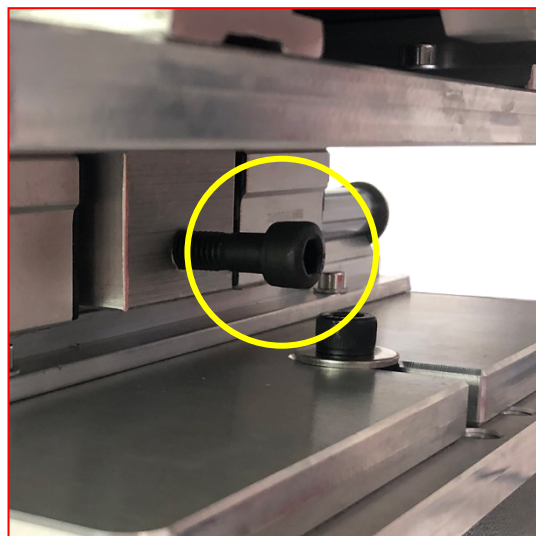

Figure 2, Figure 3
3. The bottom of the table is equipped with a brake device (Figure 2 and Figure 3). Just tighten the screws.